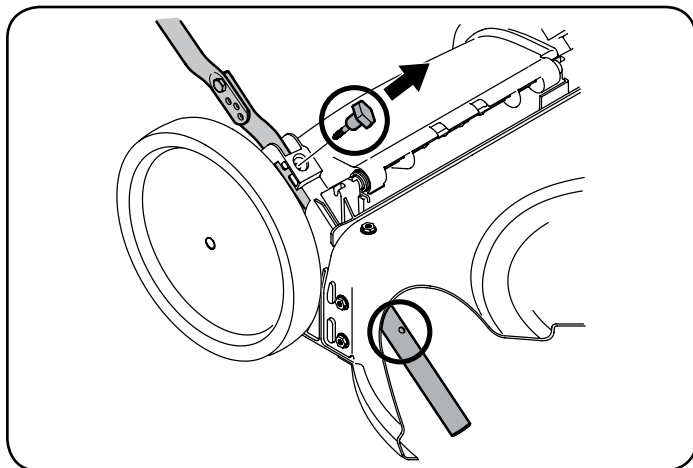
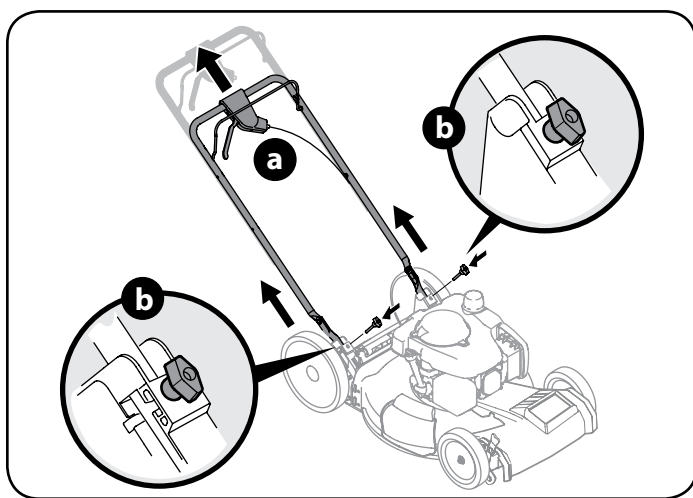

Figure 6
Figure 7
5. Remove T-bolts from the handle brackets as shown in Figure 6.
- a. Pull upward on the handle until holes in lower handle (shown in Figure 6 deck cutaway) line up with holes in handle bracket. See Figure 7.
- b. Insert the T-bolts removed in Step 2 through the handle brackets and lower handle and tighten securely to secure the handle in place. See Figure 7.